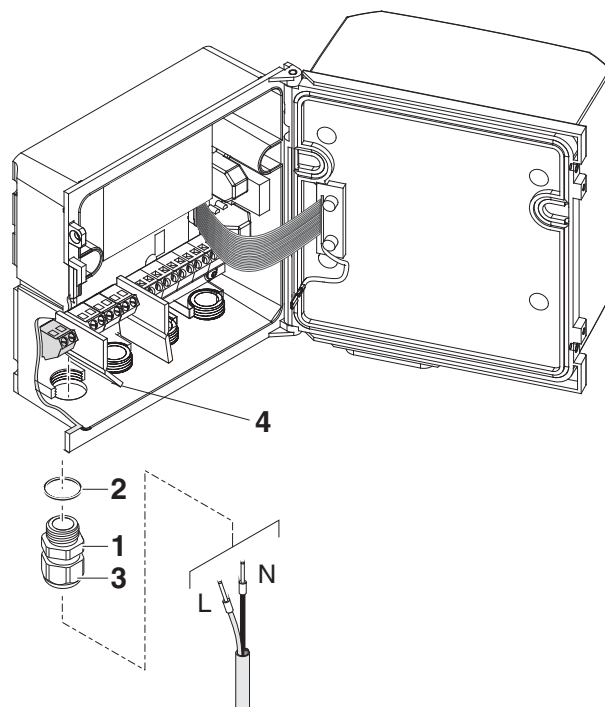

figure 3-26 Inserting the supply line.
- 6 Screw a cable gland (pos. 1 in figure 3-26) with sealing ring (pos. 2) into the enclosure below the power supply connection.
- 7 Loosen the coupling ring (pos. 3).
- 8 Feed the power line through the cable gland into the enclosure. When doing so bend the flexible divider (pos. 4) to the right.
- 10 Tighten the cap nut (pos. 3 in figure 3-26).